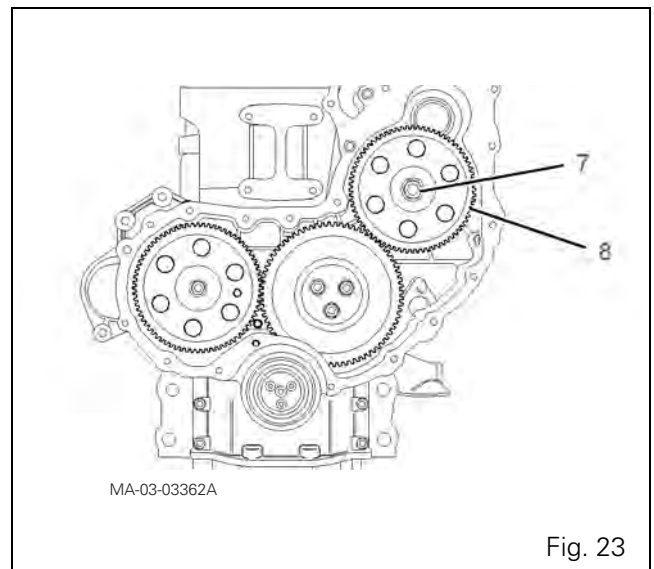

Fig. 23
111. Ensure the contact faces between the pump shaft and injection pump gear are clean. Lubricate the threads of the pump shaft. The nut (7) should turn freely until it reaches the gear (8) (Fig. 23).
117. Tighten the nut (7) to a torque of 88 Nm (Fig. 23).